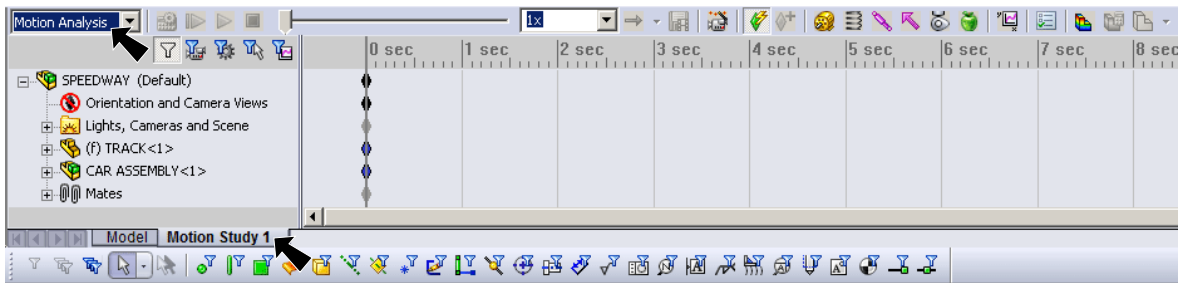

Fig. 2
- Step 1. Click **Motion Study 1** tab **Motion Study 1** at the lower left of the drawing area, Fig. 2.
- Step 2. Set Type of Study to **Motion Analysis**, Fig. 2.